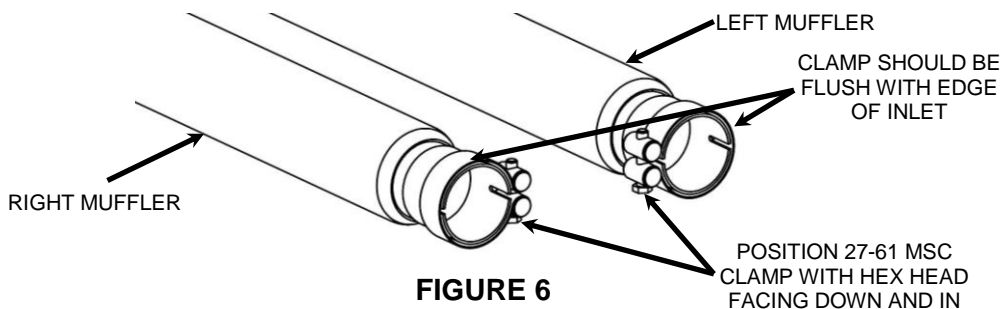

FIGURE 6
13. Slide the supplied clamps over the inlets of the right and left mufflers. Position them as shown in **FIGURE 6** with the hex head facing inward and towards the ground.
18. From the rear, rotate the mufflers as needed so they are level with the ground and parallel with each other. Then tighten the clamps and the mount bolts. (NOTE: The clamps should be flush with the end of the crossover assembly inlets when tightened. See **FIGURE 6**. If the clamps are slid past the slots on the crossover assembly inlet the clamps will not tighten properly).